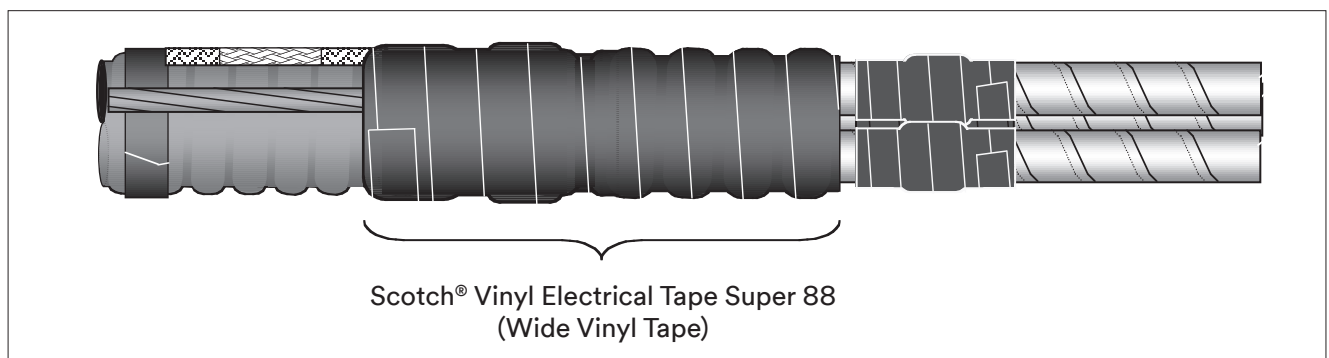

Figure 7
- 3.10 Apply two half-lapped layers of Scotch® Vinyl Electrical Tape Super 88 (wide vinyl tape) over looped ground wire area (Figure 7).